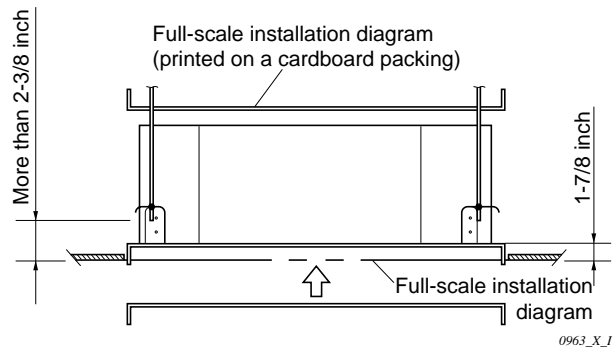

Fig. 3-4
- (1) When placing the unit inside the ceiling, determine the pitch of the suspension bolts using the supplied full-scale installation diagram. (Fig. 3-4) The size of the opening for the indoor unit can be confirmed by attaching the full-scale installation diagram beneath the unit. (Fig. 3-4) Tubing and wiring must be laid inside the ceiling when suspending the unit. If the ceiling is already constructed, lay the tubing and wiring into position for connection to the unit before placing the unit inside the ceiling.
- (2) The length of suspension bolt must be appropriate for a distance between the bottom of the bolt and the bottom of the ceiling of more than 2-3/8 in. as shown in Fig. 3-4.
- (4) Remove the protective cardboard used to protect the fan parts during transport.
- (5) Adjust the distance between the unit and surface of the ceiling (1-7/8 in.) using the supplied installation gauge. (Fig. 3-4)